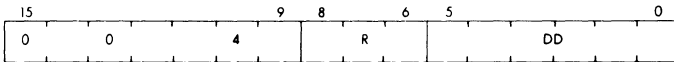

Figure 4-4 JSR Instruction Format
- *Jump and Subroutine* — These instructions have both op code and address parts, and, in the case of JSR, a register for linkage. Figure 4-4 illustrates the JSR instruction format and Figure 4-5 illustrates the RTS instruction format.